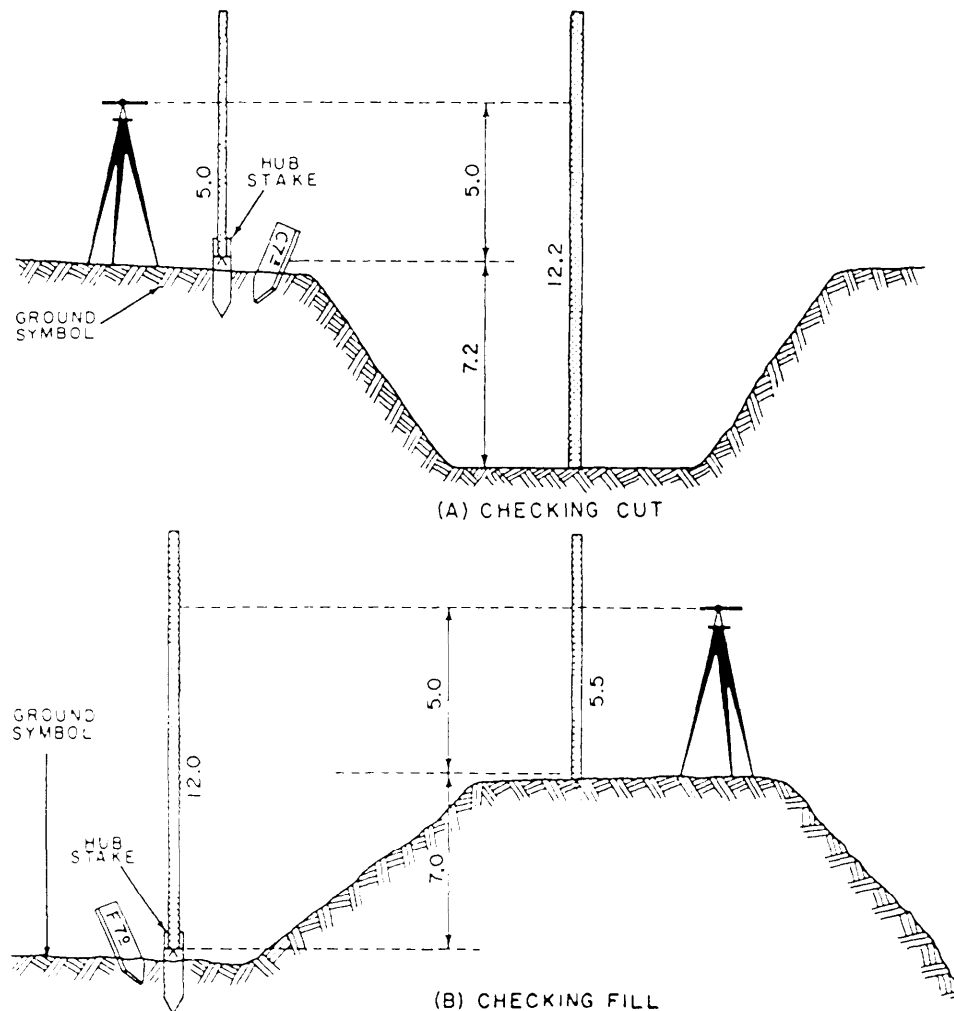

Figure 15-51.—Checking cut and fill.
An example of checking ground spots for desired grade with a level instrument is shown in figure 15-51.
The hubs and stakes at the side of the construction represent offset grade stakes. In figure 15-51, view (A), the grade stake calls for a cut of 7.5 feet. You set up your level and take two readings: first on the hub and then on the excavation. Your first reading is 5.0 feet. Since the excavation is supposed to be 7.5 feet below the hub, your second reading should be 12.5 (5.0 plus 7.5 as shown). But the rod reads only 12.2; therefore, you must cut 0.3 feet more to get to finished subgrade.
In figure 15-51, view (B), your first reading is 12.0 feet on the hub. Since the stake calls for F 7.0, you should read 5.0 on the completed fill. But the rod reads 5.5; therefore, you must fill another 0.5 feet to finish the subgrade.